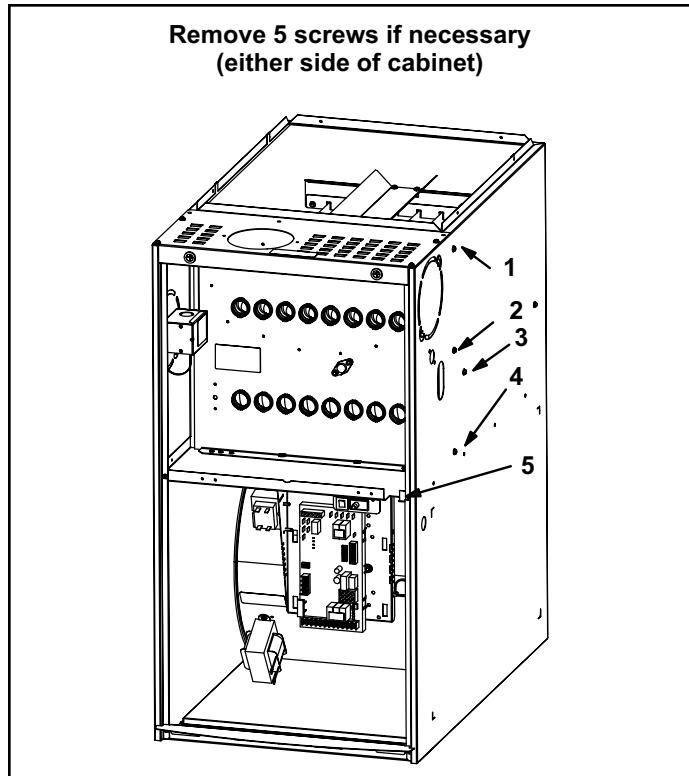

Figure 22.
- Remove heat exchanger. It may be necessary to spread cabinet side to allow more room. If so, remove five screws from the left side or right side of cabinet. See Figure 22.